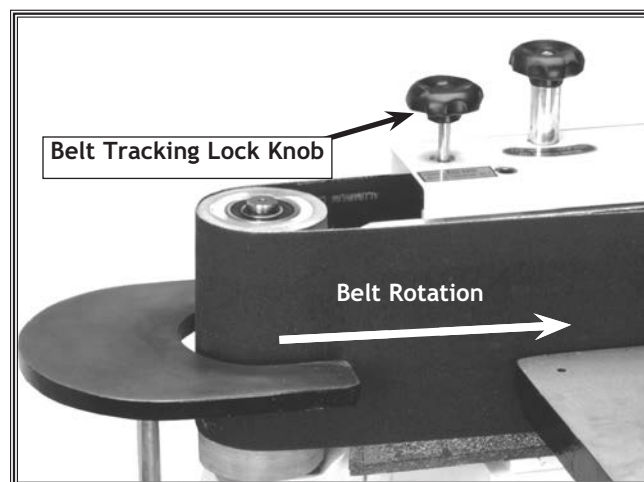

Figure 31. Belt tracking lock knob and belt tracking knob.
2. Loosen the belt tracking lock knob. See Figure 31.